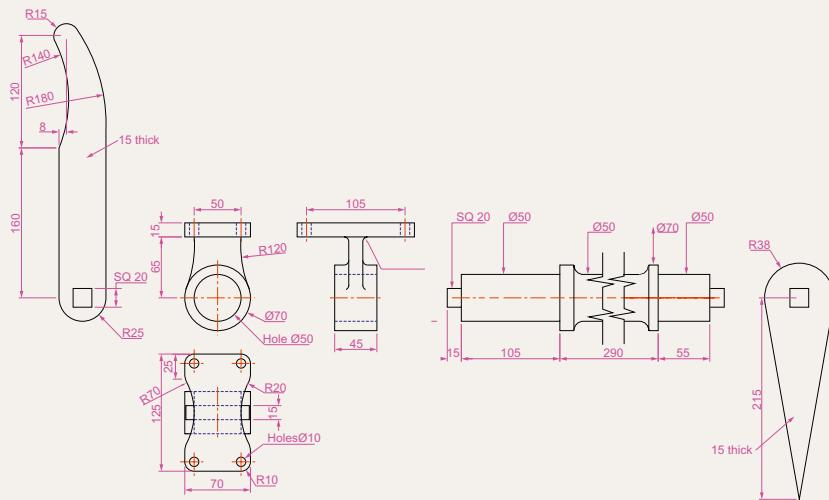
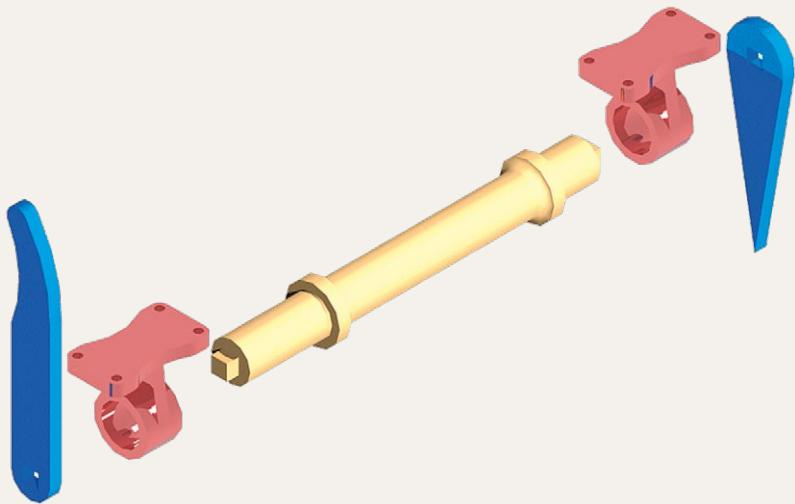

Fig. 19.26 Exercise 5 – details drawing
Fig. 19.27 Exercise 5 – exploded rendered view
5. Working to the details shown in Fig. 19.26, construct an assembled 3D model, with the parts in their correct positions relative to each other. Then separate the parts as shown in the 3D rendered model drawing (Fig. 19.27). When the 3D model is complete add suitable lighting and materials and render the result.